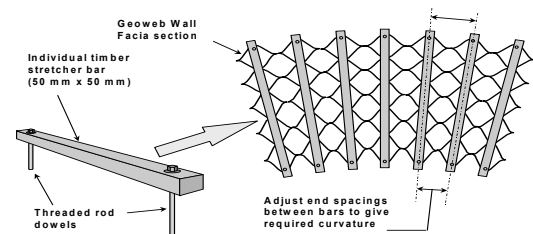
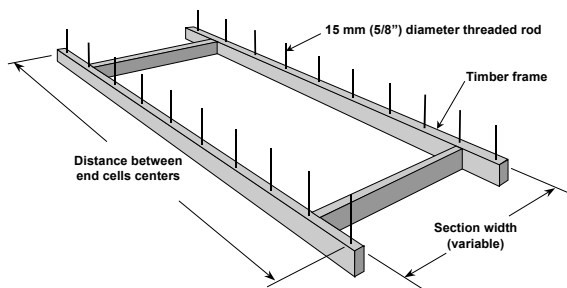
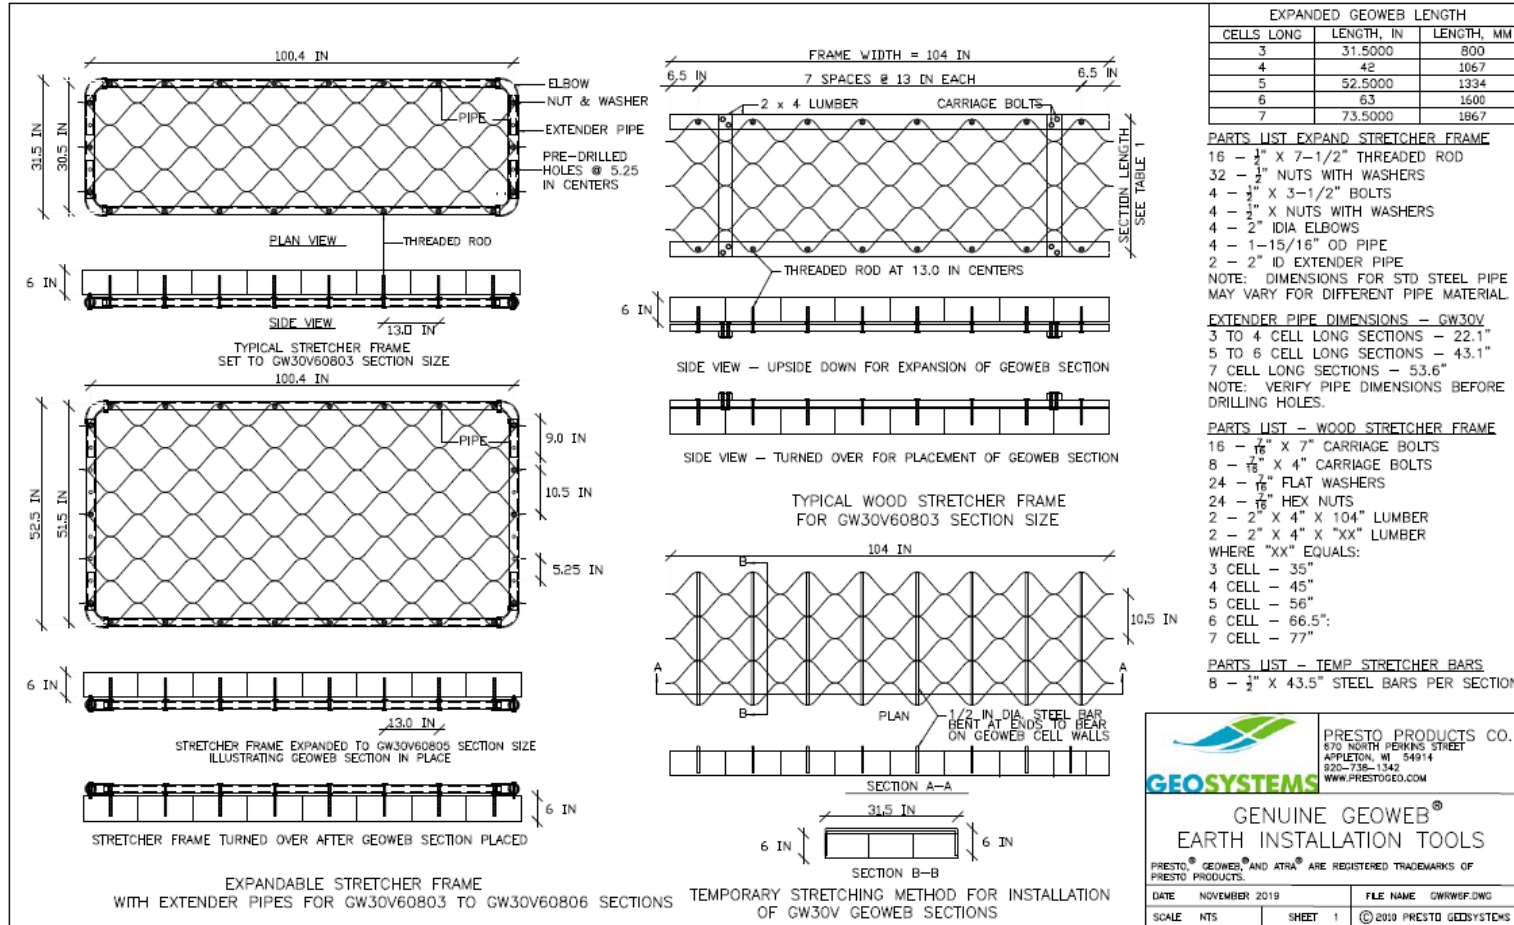

Figure 2 Stretcher Bars for Straight and Curved Wall Sections
Figure 3 Stretcher Frame
Figure 12 Stretcher Frame & Bar Details
- **Option 1:** For both straight and curved wall alignments, insert a series of individual stretcher bars into the expanded GEOWEB section, position, and fill. See Figure 2 and Figure 12.
- **Option 2:** Expand and fit the GEOWEB section over the dowels of a suitably dimensioned stretcher frame. See Figure 3 and Figure 12. Invert the frame and position the section to receive infill material. When the section is filled, remove the frame, and repeat the process.